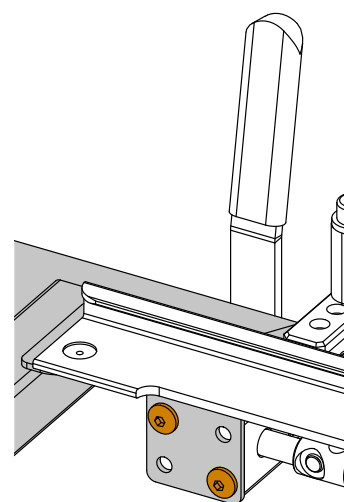

Figure 7. Screws for user brakes (seen from inside of seat frame)
5. Remove both user brakes from the seat frame. They are attached with 2 screws from the inside of the seat frame (Figure 7). Be careful not to damage the brake cables.